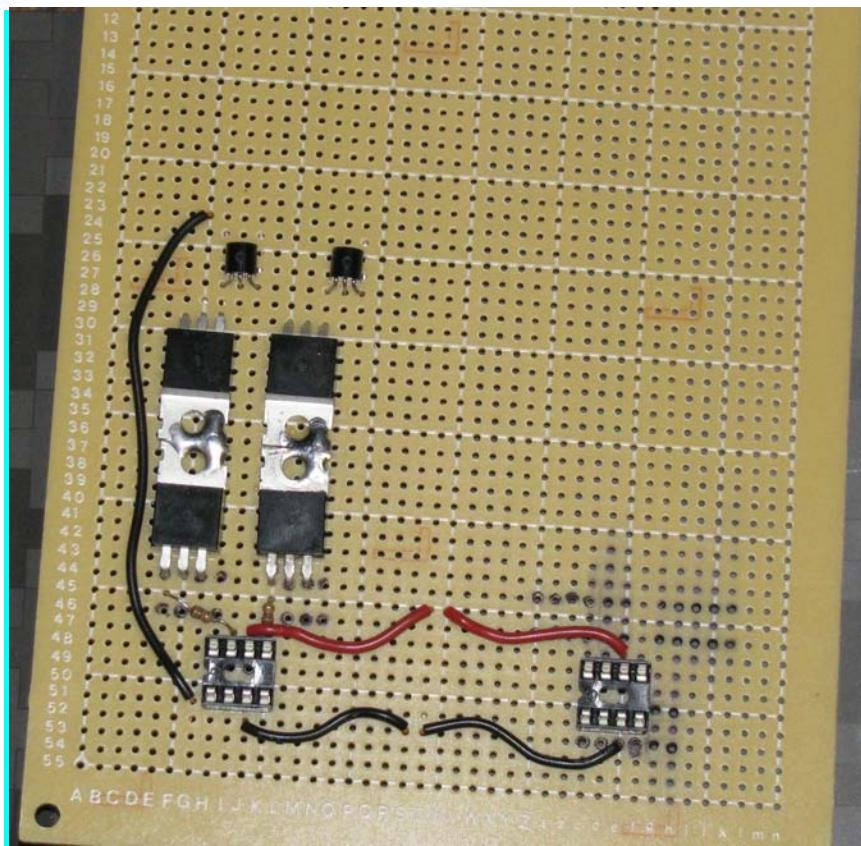

Figure 5-6. All of the mosfets in the left H-bridge are installed—the same should be done for the right H-bridge.
3. *Install mosfets:* Repeat these instructions for each side of the motor-controller. Start by placing the N-channel power mosfets (FQP50-N06L) about 4–5 holes above the IC sockets—pin 5 (top right) of the TC4427 IC controls the lower right mosfet Gate pin, whereas pin 7 controls the lower left mosfet Gate pin. **I used a 150-ohm resistor (each) between these pins and the mosfets Gate pin—these resistors are not required.** Space the lower mosfets about 3–4 holes apart to give them room (you want to leave some room on the bottom to solder), as shown in Figure 5-6.
4. Next place the P-channel power mosfets directly above the N-channel power mosfets, such that their tabs can be soldered together. The tab of a mosfet is almost always tied to the center pin (drain) of a TO-220 mosfet. By soldering the corresponding P and N channel mosfets drain tabs together, there is no need to connect the center pins of the mosfets beneath the PCB (you can even clip them off), though I soldered them to the PCB pad to help hold the mosfet in place. The motor terminal wires are soldered directly to these tabs (see Figure 5-6).